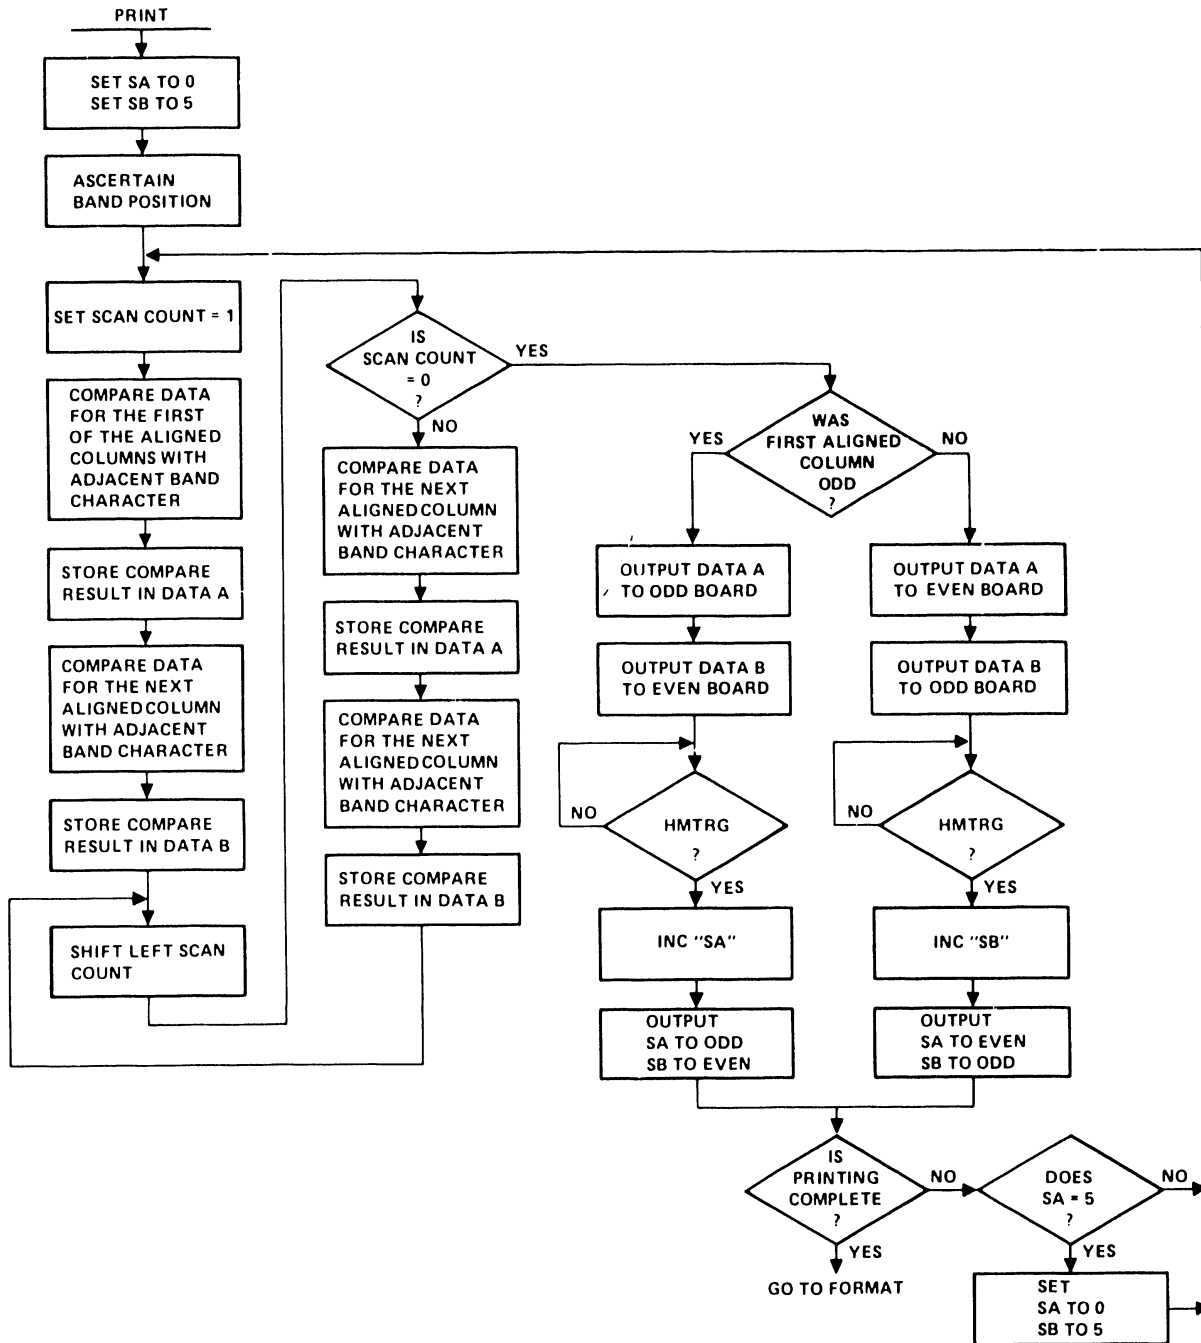

Figure 2-76. 600 LPM and 1000 LPM Print Routine
The processor's sixteen working registers hold the various counts and address pointers used throughout the print routine. **Figure 2-76** is the flow chart for the 600 LPM and 1000 LPM print routine.
3. Set Scan Count = 1 - Using another of the working registers, the processor sets an index to the pair of columns checked at each step of a sub-scan. The scan count is a data mask. When its value is 1 (binary 0000 0001), the processor stores results of tests on the first pair of columns, 1 and 10, in group A (refer to **figure 2-76**). When the mask value is shifted to 2 (0000 0010), data for the second two columns, 19 and 28, in group B, is stored, and so on through eight column groups. To begin the first sub-scan, the count is put at 1.